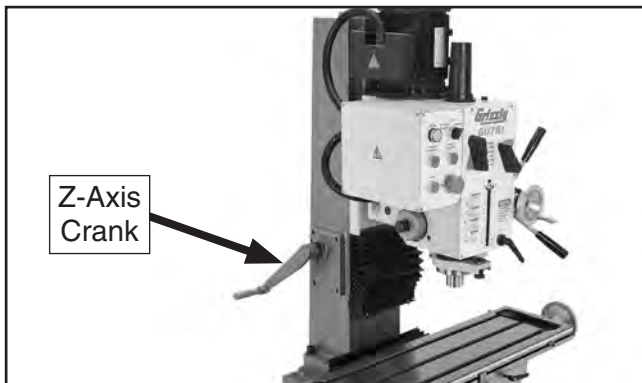

Figure 15. Z-axis crank.
3. Use Z-axis crank shown in **Figure 15** to adjust headstock height.